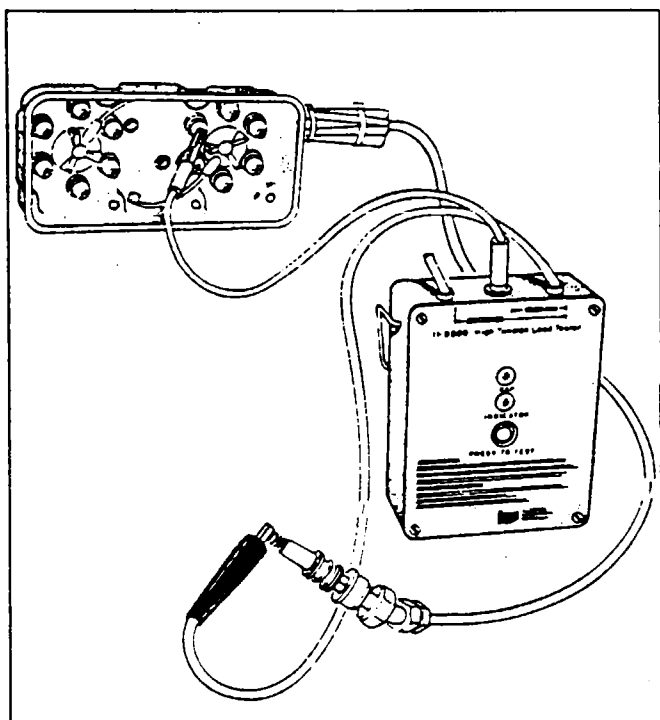

Figure 74-10. Checking Harness Lead Continuity
- A. Connect black test lead to contact spring and red lead to eyelet of the same lead. (Refer to Figure 74-10.)